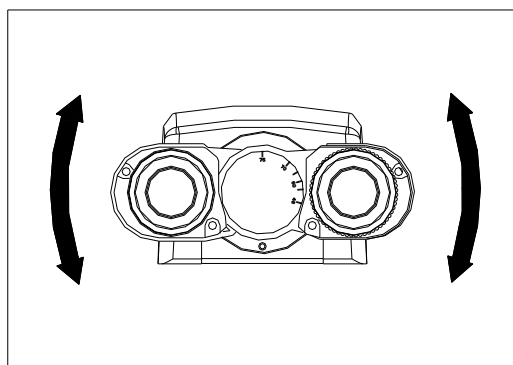

Fig.21
3.2.6 Adjusting the Interpupillary Distance (Fig.21)